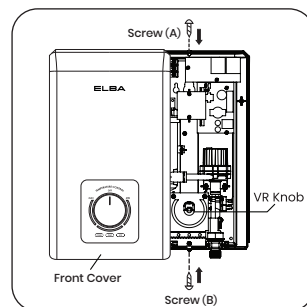

Fig. 8
3. Secure the front cover with the screw (A) & screw (B) as shown in the figure below (Fig. 8).